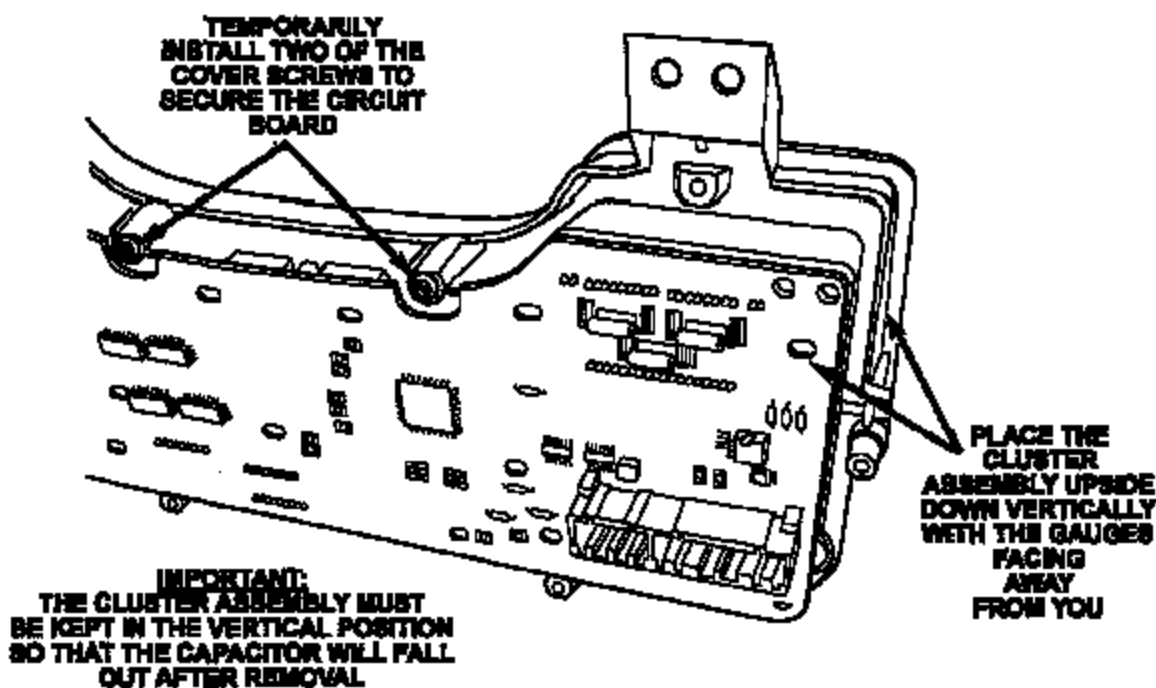

Figure 7
15. Reinstall two of the screws that were removed in Step 13 to temporarily secure the circuit board to the cluster gauges (Figure 7).
16. Position the circuit board assembly on the workbench, such that the circuit board is vertical and the gauges are upside down and facing away from you (Figure 7).
20. Remove the two temporary screws from the circuit board assembly (Figure 7).